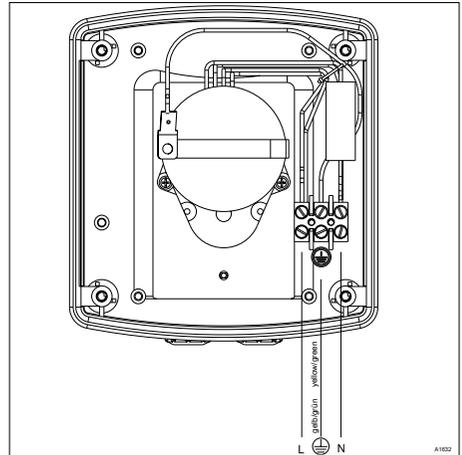

Fig. 7: Terminal diagram
7. ➤ Connect the mains cable accordingly, see Fig. 7 (protective conductor connection)